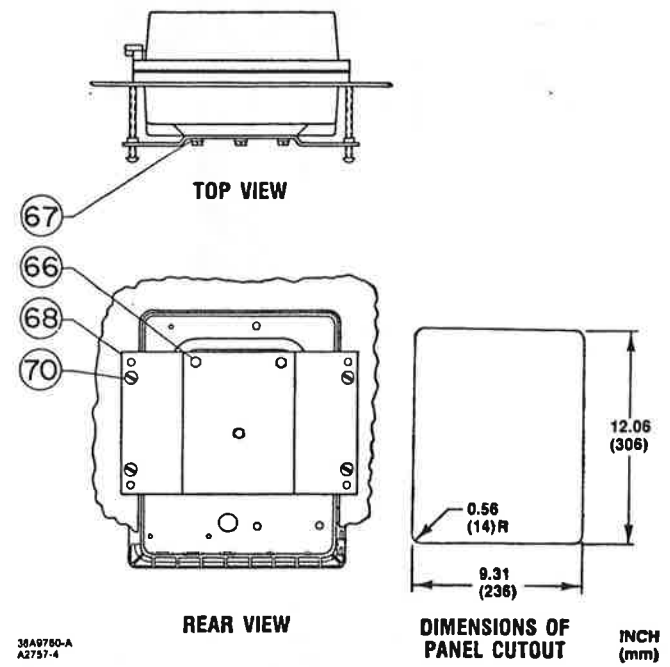

Figure 2-2. Panel Mounting
Refer to figure 2-2. Cut a hole in the panel surface using the dimensions shown in figure 2-2. Slide the controller into the hole, and attach the bracket (key 68) to the rear of the controller using three cap screws (key 66) and washers (key 67). Tighten the screws (key 70) to seat the case snugly and evenly against the panel surface.